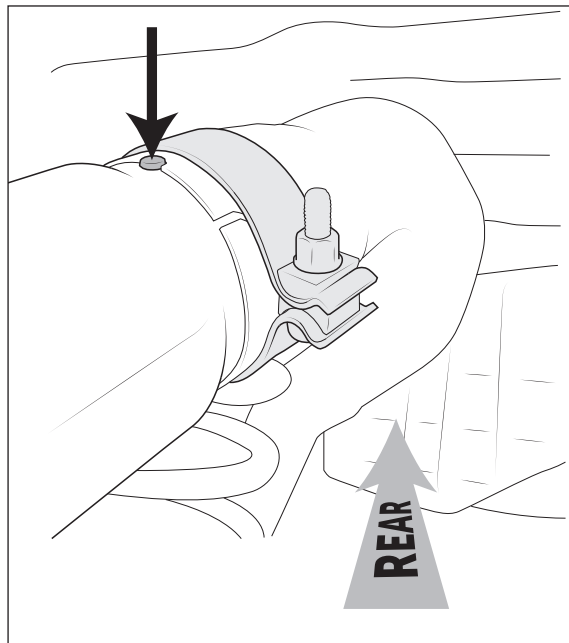

Figure 42
- A. Undo rear most exhaust clamp, located just in front of the rear axle assembly, and slip exhaust apart. Grind down the locating tab shown below to allow rotation of the factory exhaust tip (fig. 42).